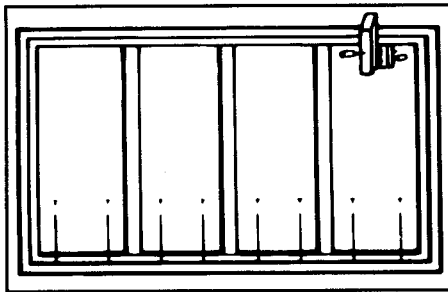

FIGURE 1
2. Clamp top and bottom of frame into cooler opening (**Figures 1 & 3**).